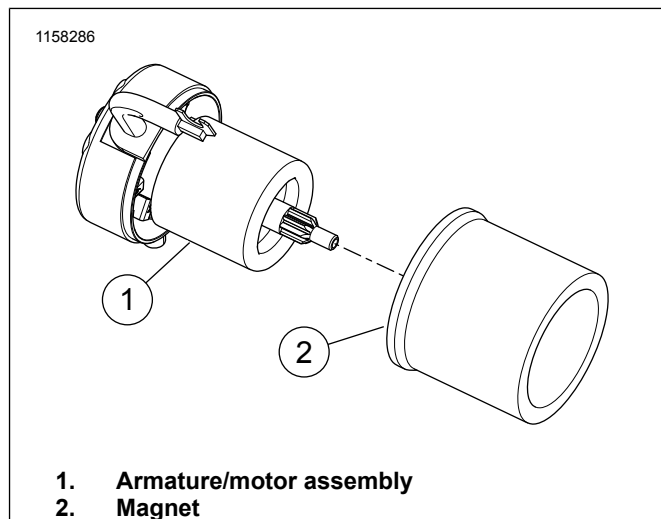

Figure 4. Magnet - Armature
11. Figure 4 Remove magnet from old armature.
16. Figure 4 Install the **new** motor assembly (1) into the magnet (2).